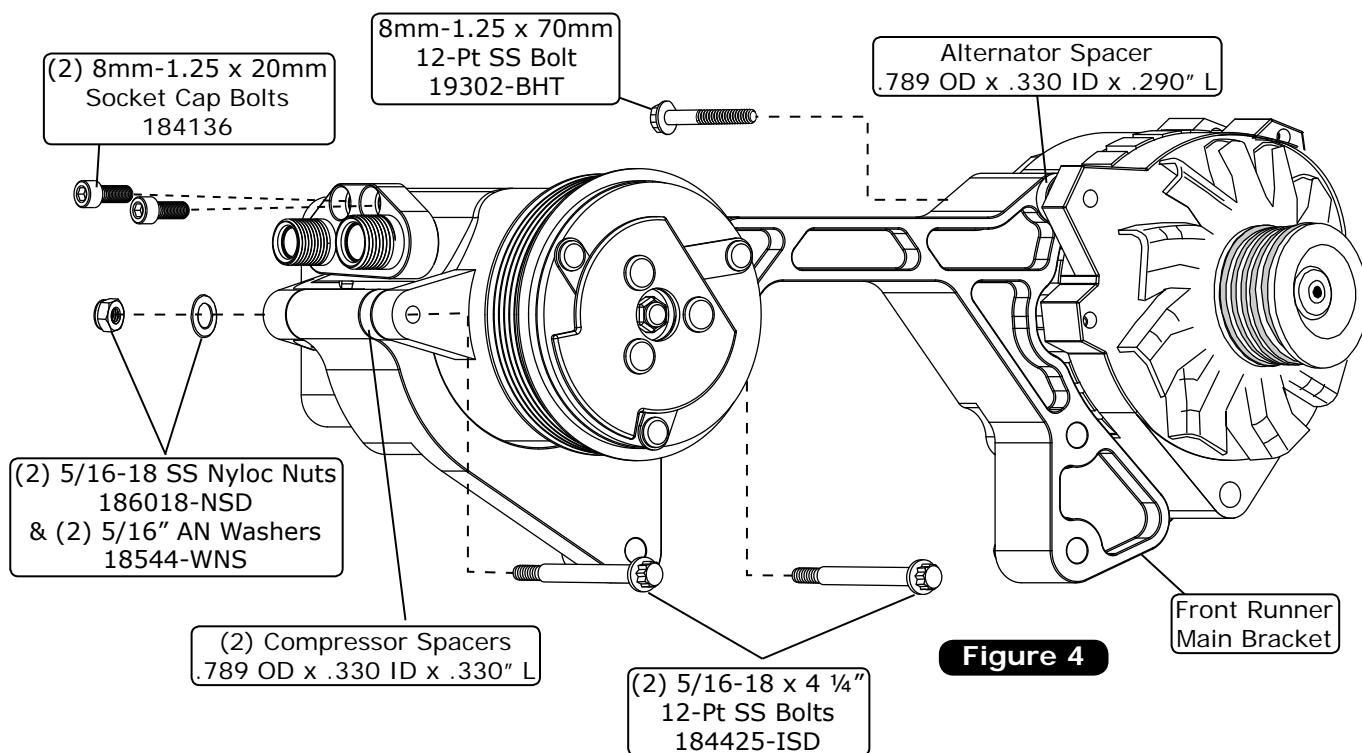

Figure 4
1. Install the compressor block onto the compressor using (2) 8mm-1.25 x 20mm socket cap bolts as shown in Figure 4, below. Torque to 18 lb ft. Keep the ports sealed with caps until the A/C circuit has been completed.
2. Install the compressor onto the Front Runner main bracket using (2) .789 OD x .330 ID x .330" L spacers, with (1) between the main bracket and the compressor's upper front mounting tab, and (1) between the main bracket and the compressor's lower front mounting tab. Secure the compressor to the main bracket using (2) 5/16-18 x 4 1/4" 12-Pt SS bolts, (2) 5/16" AN washers and (2) 5/16-18 nyloc nuts (See Figure 4, below). The compressor mounting ears contain sliding bushings that are drawn in and clamp to the bracket when compressed. Torque to 25 lb ft.
3. Install the alternator onto the main bracket using an 8mm-1.25 x 70mm 12-Pt SS bolt (See Figure 4, below). Torque to 24-28 lb ft.